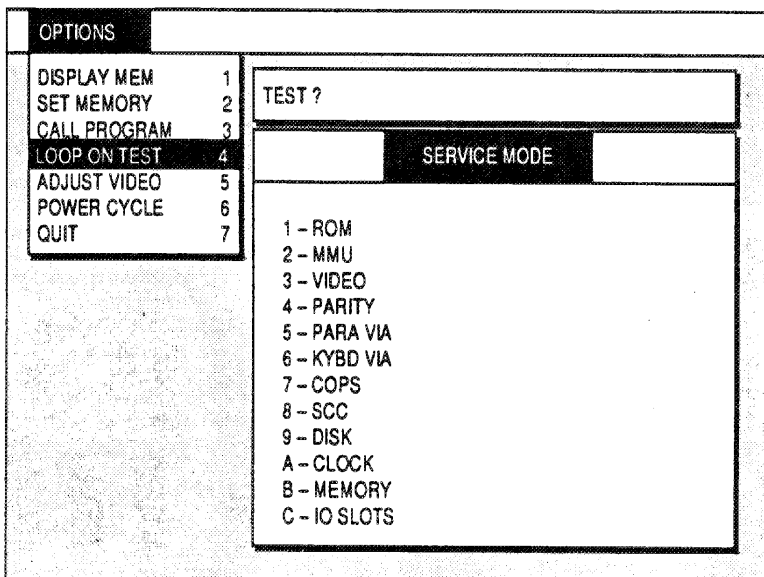

Figure 16 The Lisa's built-in service mode. Use with caution!
5. Hold down the Apple key and press the s key. S presumably stands for service. Case is irrelevant. Pressing S, or s, will engage the service mode as shown in Figure 16.